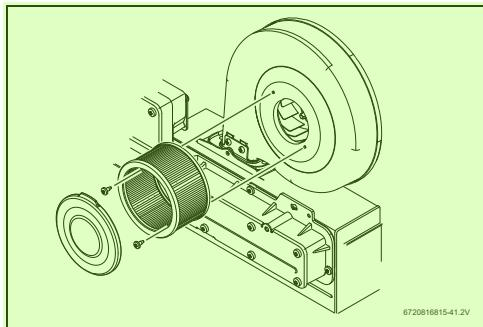

Fig. 54 Remove/assembly air filter 9
- Verify if the air filter is clean and undamaged. The air filter is attached to the fan assembly, see fig. 54.